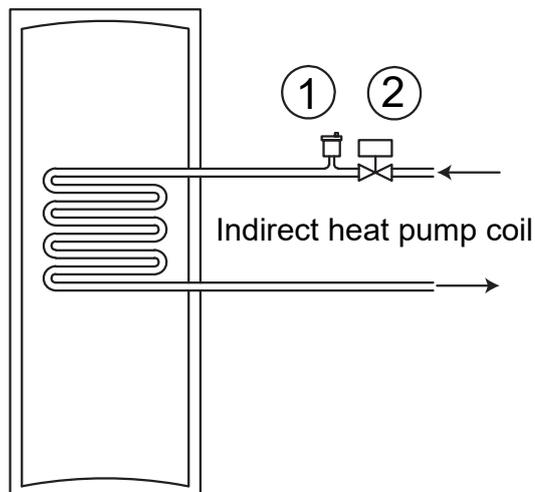

Figure 3-1: Primary circuit connections
Refer to item 2 in Figure 3-1. The 2-port valve should be wired in accordance with either Figure 5-3 or Figure 5-4 for a Grant Aerona Heat Pump (depending on the controller) to comply with current legislation. For other makes of heat pump please check with the heat pump manufacturer for connection details.
Table 3-1: Key to Figure 3-1